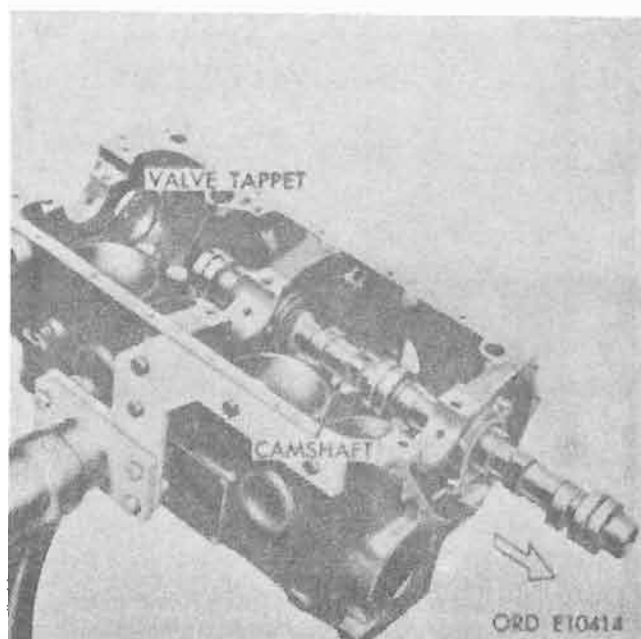

Figure 4-119. Camshaft removal.
c. **Camshaft.** Turn cylinder block over on engine stand to prevent tappets from dropping out when camshaft is being removed. Carefully remove camshaft by pulling it toward front of engine (fig. 4-119).
d. **Tappets.** Remove eight tappets, keeping in order so they can be installed in their original positions (fig. 4-119).